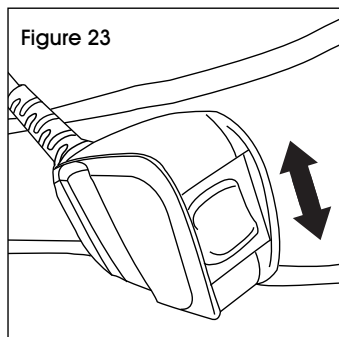

Figure 23
3. Press orange switch to power up the unit. (See Figure 23)